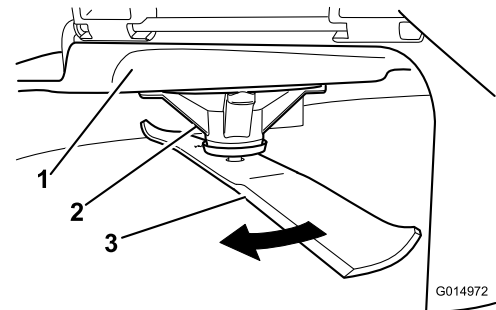

Figure 76
2. While wearing thickly padded gloves, or other adequate hand protection, slowly rotate the blade into a position that allows you to measure the distance between the cutting edge and the level surface the machine is on (Figure 76).